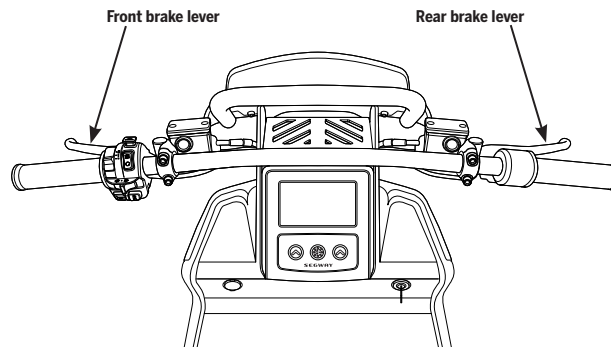

Figure 28: Use BOTH brakes when braking
2. Activate the brakes smoothly and evenly by squeezing the levers, adjusting the braking pressure as needed for the braking situation (**Figure 28**). Shorter, more aggressive stops require more lever pressure, longer, slower stops require less lever pressure.